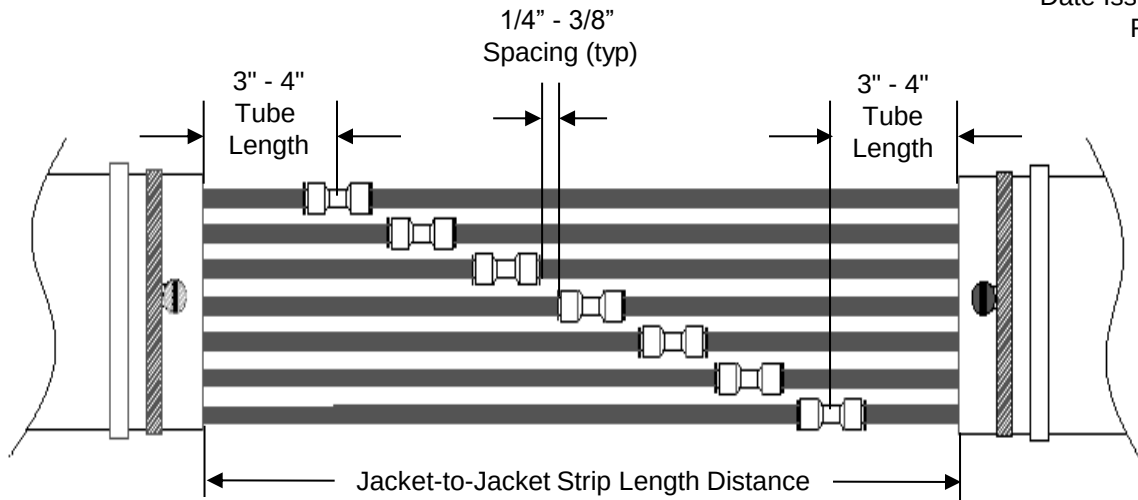

Figure 1
5.1 **See Fig. 1** for the recommended layout of a typical in-line tube cable splice.